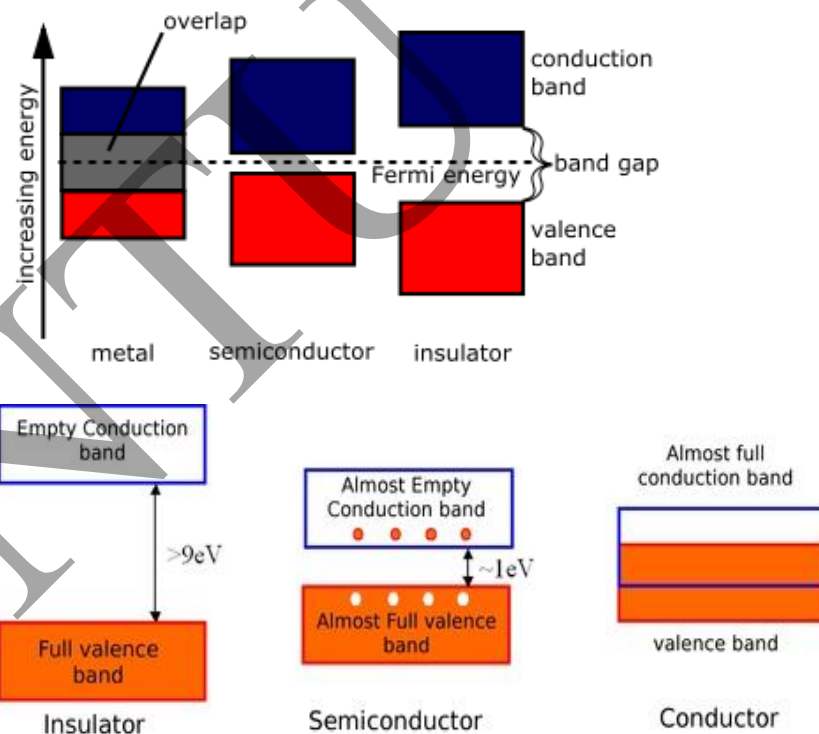

Figure 2 : Representation of energy bands
- (i) **Insulators.** Insulators (e.g. wood, glass, plastics, rubber etc.) are those substances which do not allow the passage of electric current through them. In terms of energy band, the valence band is full while the conduction band is empty as shown in Fig 2. Further, the energy gap between valence and conduction bands is very large (**15 eV**). Therefore, a very high electric field is required to push the valence electrons to the conduction band. For this reason, the electrical conductivity of such materials is extremely small. At room
(ii) **Conductors.** Conductors (e.g. copper, aluminum) are those substances which easily allow the passage of electric current through them. It is because there are a large number of free electrons available in a conductor. In terms of energy band as in Fig 2, the valence and conduction bands overlap each other due to this overlapping; a slight potential difference across a conductor causes the free electrons to constitute electric current.
(iii) **Semiconductors.** Semiconductors (e.g. germanium, silicon etc.) are those substances whose electrical conductivity lies in between conductors and insulators. In terms of energy band, the valence band is almost filled and conduction band is almost empty in fig 2. Further, the energy gap between valence and conduction bands is very small. The semiconductor has :